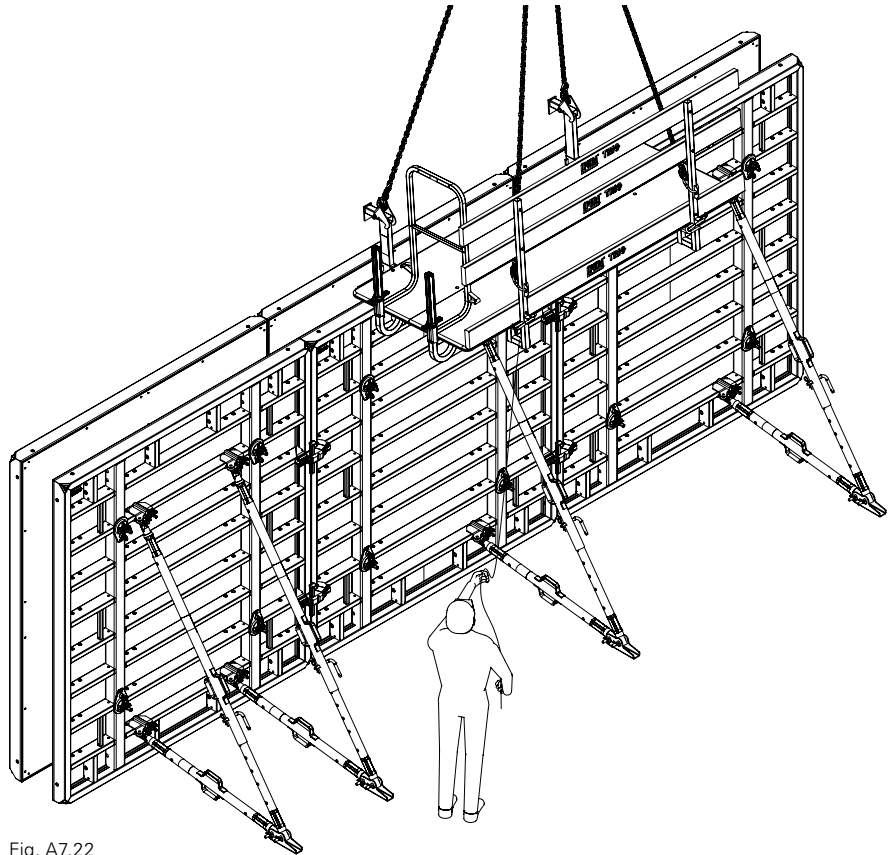

Fig. A7.22
1. Attach the TRIO Concreting Platform with the suspension beams to the top frame profile. Guide from below using guide rope. (Fig. A7.22)